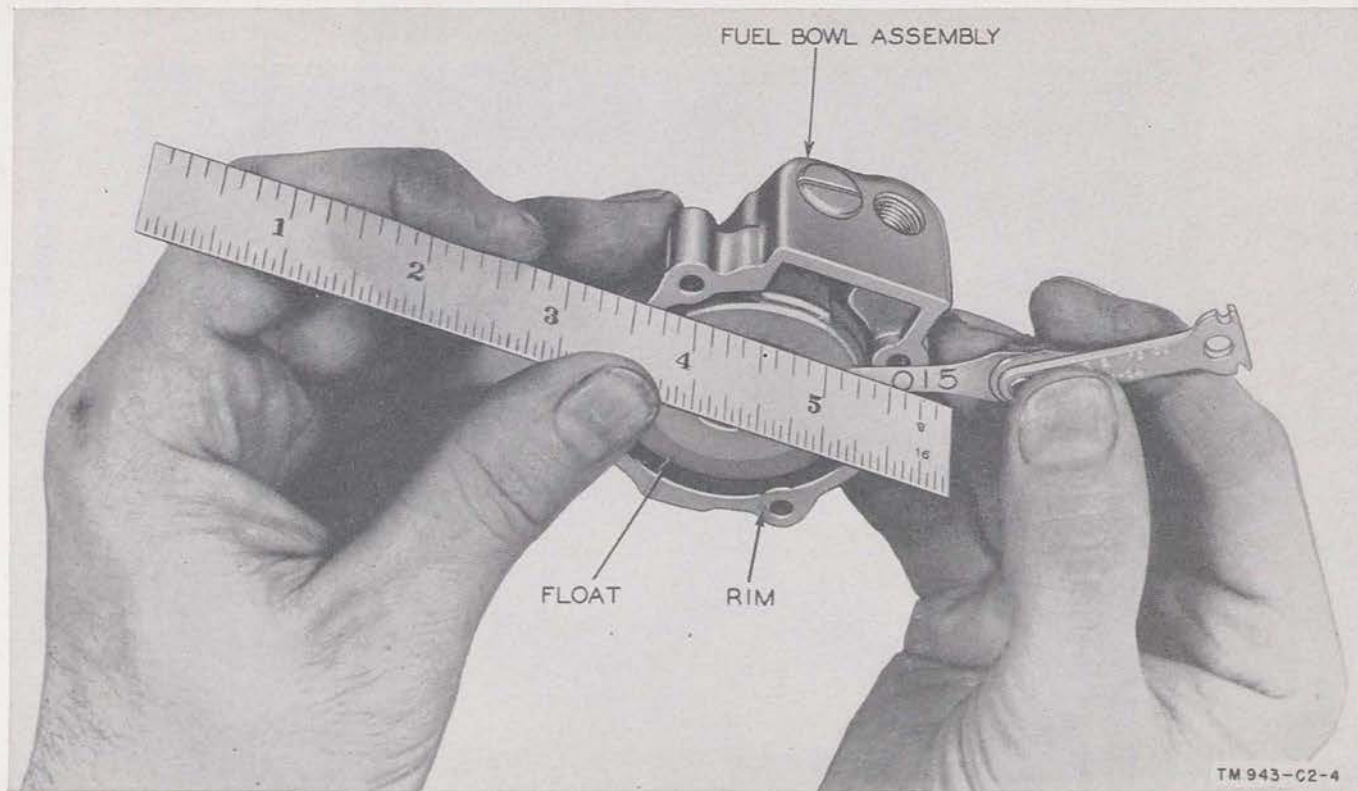

Figure 36 (Superseded). Carburetor float-level adjustment.
d. FLOAT SETTING (fig. 36). To check the float setting, proceed as follows: